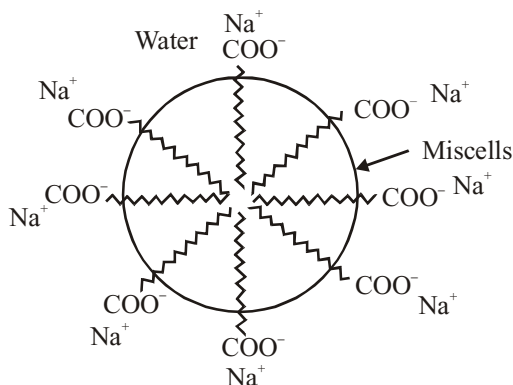

Fig.10.1 : Aggregation of RCOO^- ions to form a micelle.
- (c) Associated colloids – These are substances which behave as normal electrolyte at low concentration but get associated at higher concentration to form miscelle and behave as colloidal solution. Soap is an example. Soap is sodium salt of long chain fatty acid $R\text{COONa}$. When put in water, soap forms RCOO^- and Na^+ . These RCOO^- ions associate themselves around dirt particles as shown below forming a miscelle (Fig. 10.1).